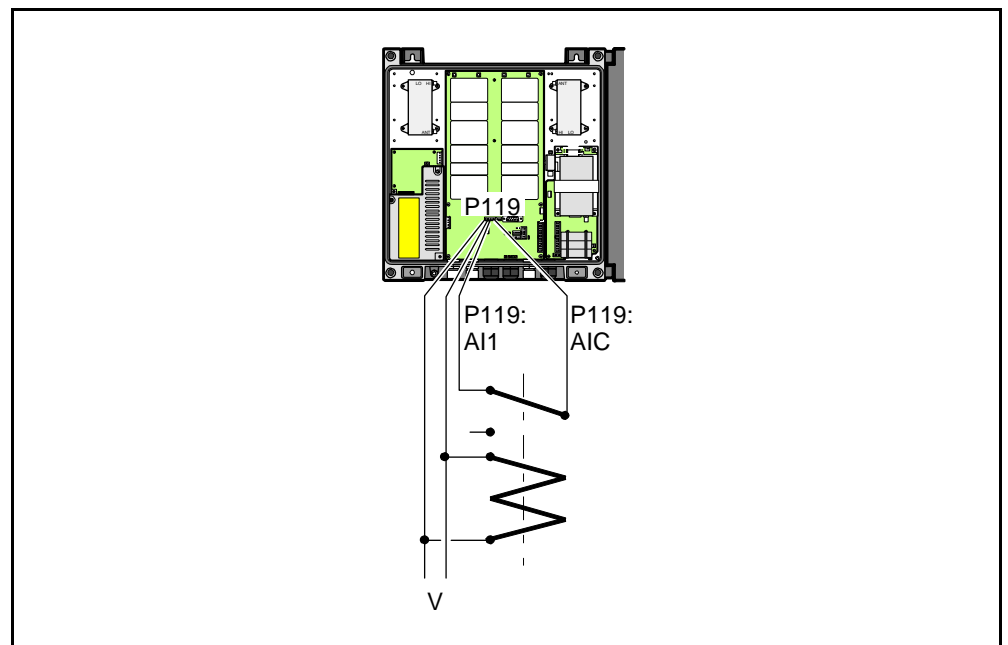

Figure 3-8. Mains breakdown relay connection
- Connect a normally closed relay contact to pin AI1 and AIC on the P119 alarm connector (closed contact at no current). Alarm is initiated by short circuiting the AI1 and AIC inputs as shown in Figure 3-8. The P119 alarm connector is detailed on page 3-11.